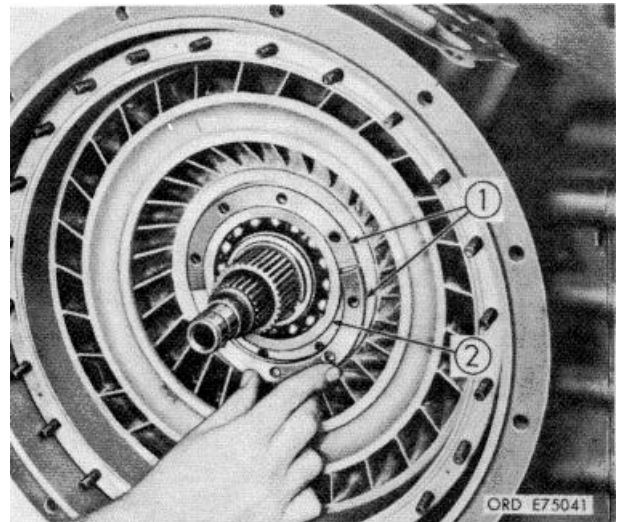

Figure 7-30. Removing (or installing) snapping which retains brake hub.
a. Remove the snapping which retains the steer planetary carrier assembly in the brake hub (fig. 7-30).
q. Install the snapping into the brake hub to retain the hub (fig. 7-30).